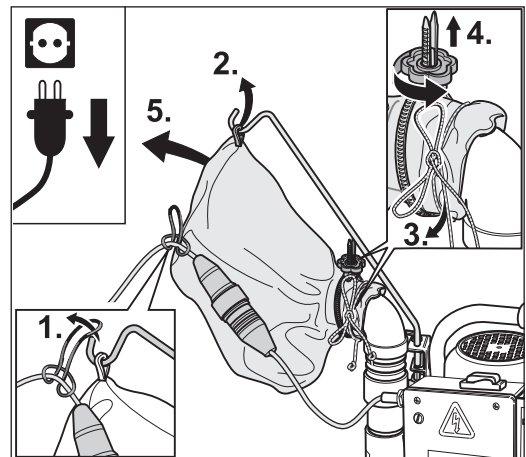

Fig. 51 Removing the dust bag.
- 5 Remove the strain relief ring together with the extension cable from the cable rod (Fig. 51, 1.).
- 6 Unhook the sling on the dust bag from the cable rod (Fig. 51, 2.).
- 7 Open the loop of the string on the dust bag (Fig. 51, 3.).
- 8 Undo the MultiClip fastener by unscrewing the nut (Fig. 51, 4.).
- 9 Pull off the dust bag from the pipe stub carefully (Fig. 51, 5.) and then use the string to close the dust bag so that no dust can escape on the way to the emptying location. Remove the MultiClip fastener.